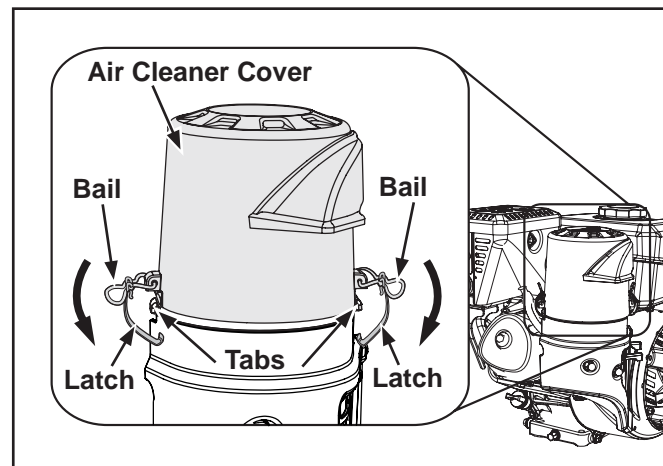

Figure 23. Air Cleaner Cover Removal.
1. Remove the air cleaner cover. Move the bails on the air cleaner cover down. Remove the latches from under the tabs of the air cleaner base. Lift and remove the air cleaner cover from the air cleaner base. See Figure 23.